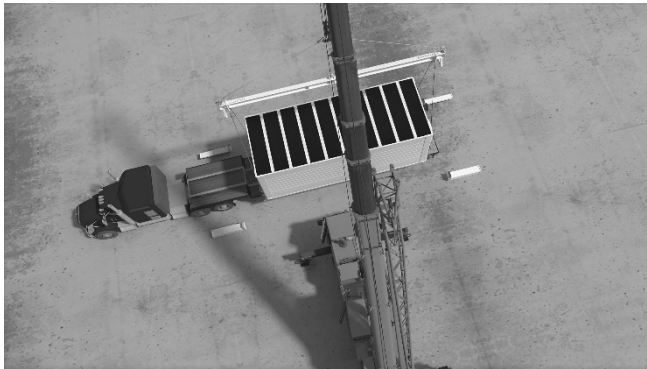

Figure 23
1. Lift and position the tower over a clear, level area and hold the tower approximately 24" above the ground (Figure 23) according to requirements provided in Tower Tech's Installation, Operation and Maintenance Manual.